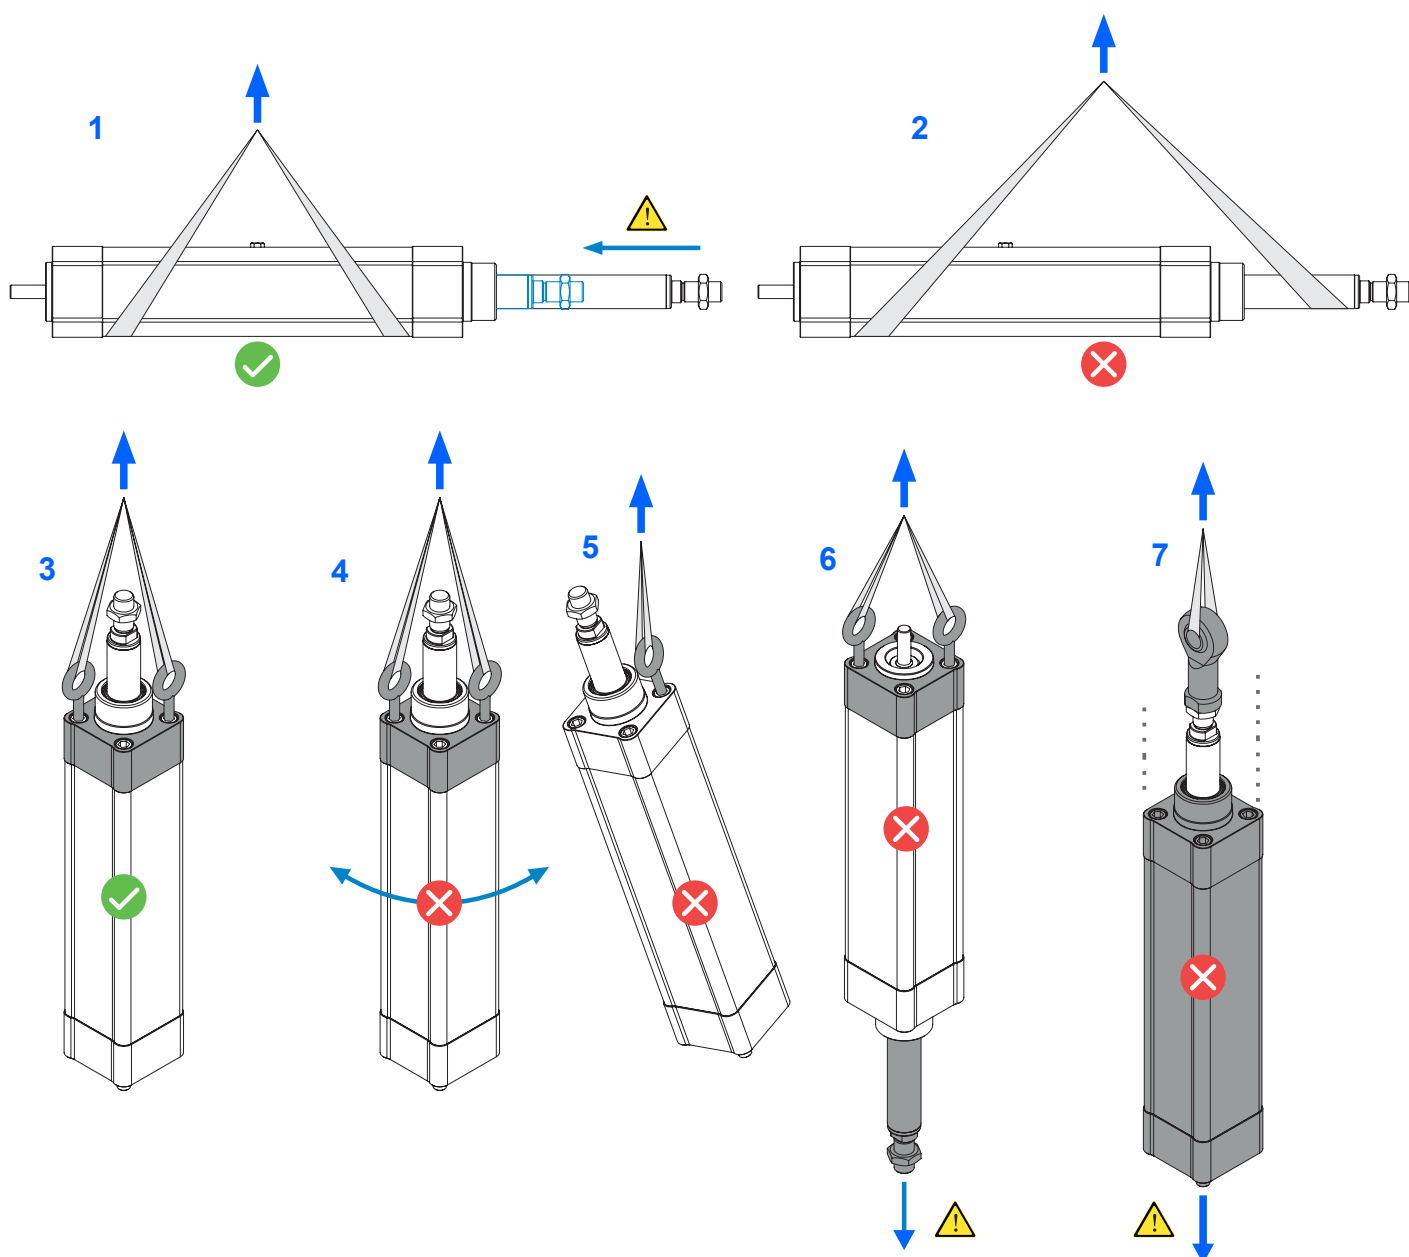

Figure 4: Carrying the electric cylinder.
- during carrying, the piston rod must be retracted, see Figure 4 - 1,
- the electric cylinder must only be lifted by the cylinder profile or by the front cap (using the eye bolts), see Figure 4 - 1 → 6,
- during carrying, the electric cylinder must be prevented from swinging, see Figure 4 - 4,
- the electric cylinder must never be lifted by the piston rod or by the drive cap only (since the ball screw drive is not self-locking), see Figure 4 - 6 and 7.